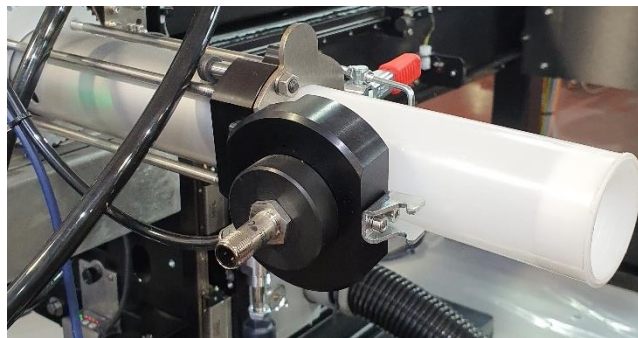

**Figure 3: Tube and Lid Connected with Aligned Ends**
2. Connect a tube lid to a tube, so that the ends line up as shown in Figure 3.